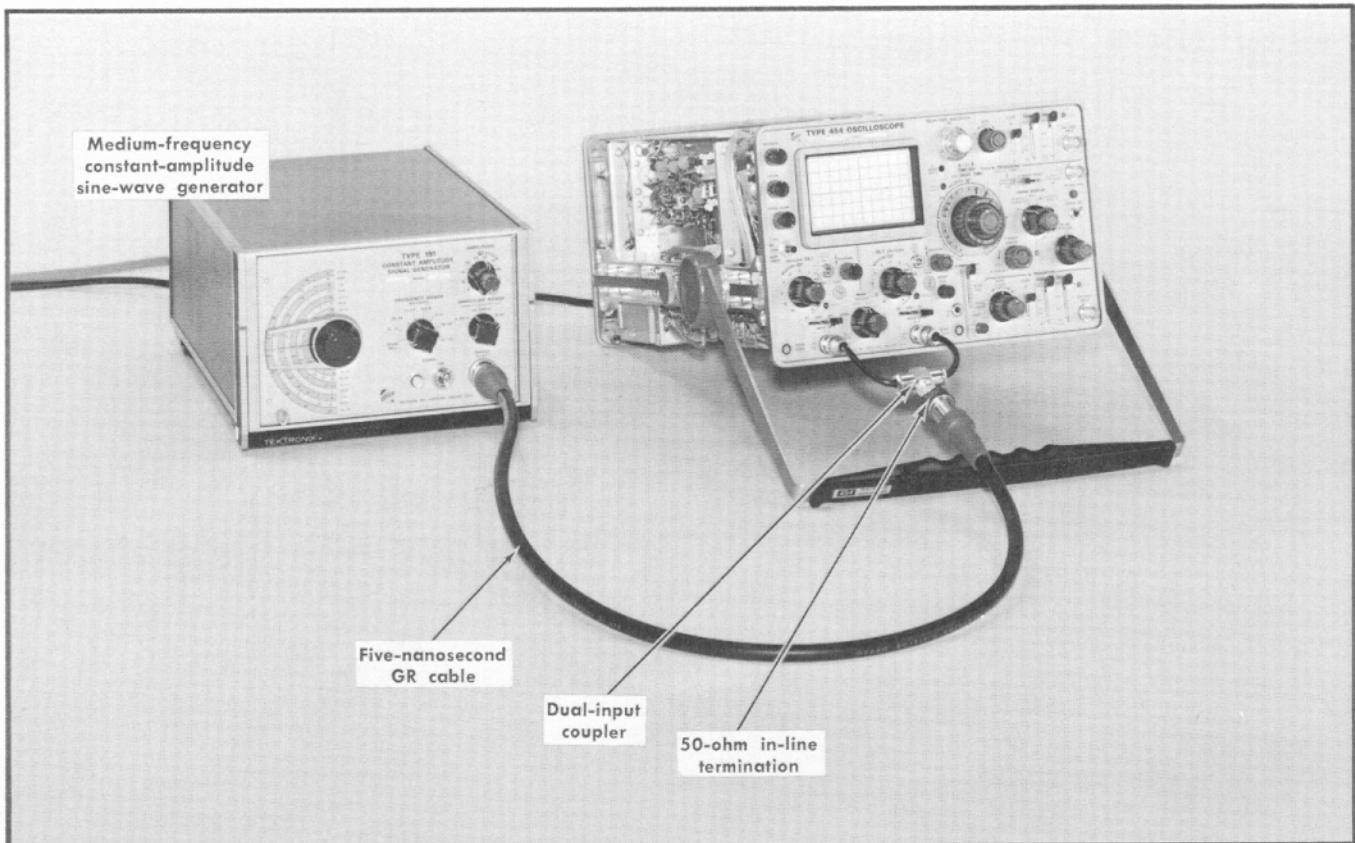

Fig. 6-30. Initial test equipment setup for steps 36 through 38.
- Test equipment setup is shown in Fig. 6-30.